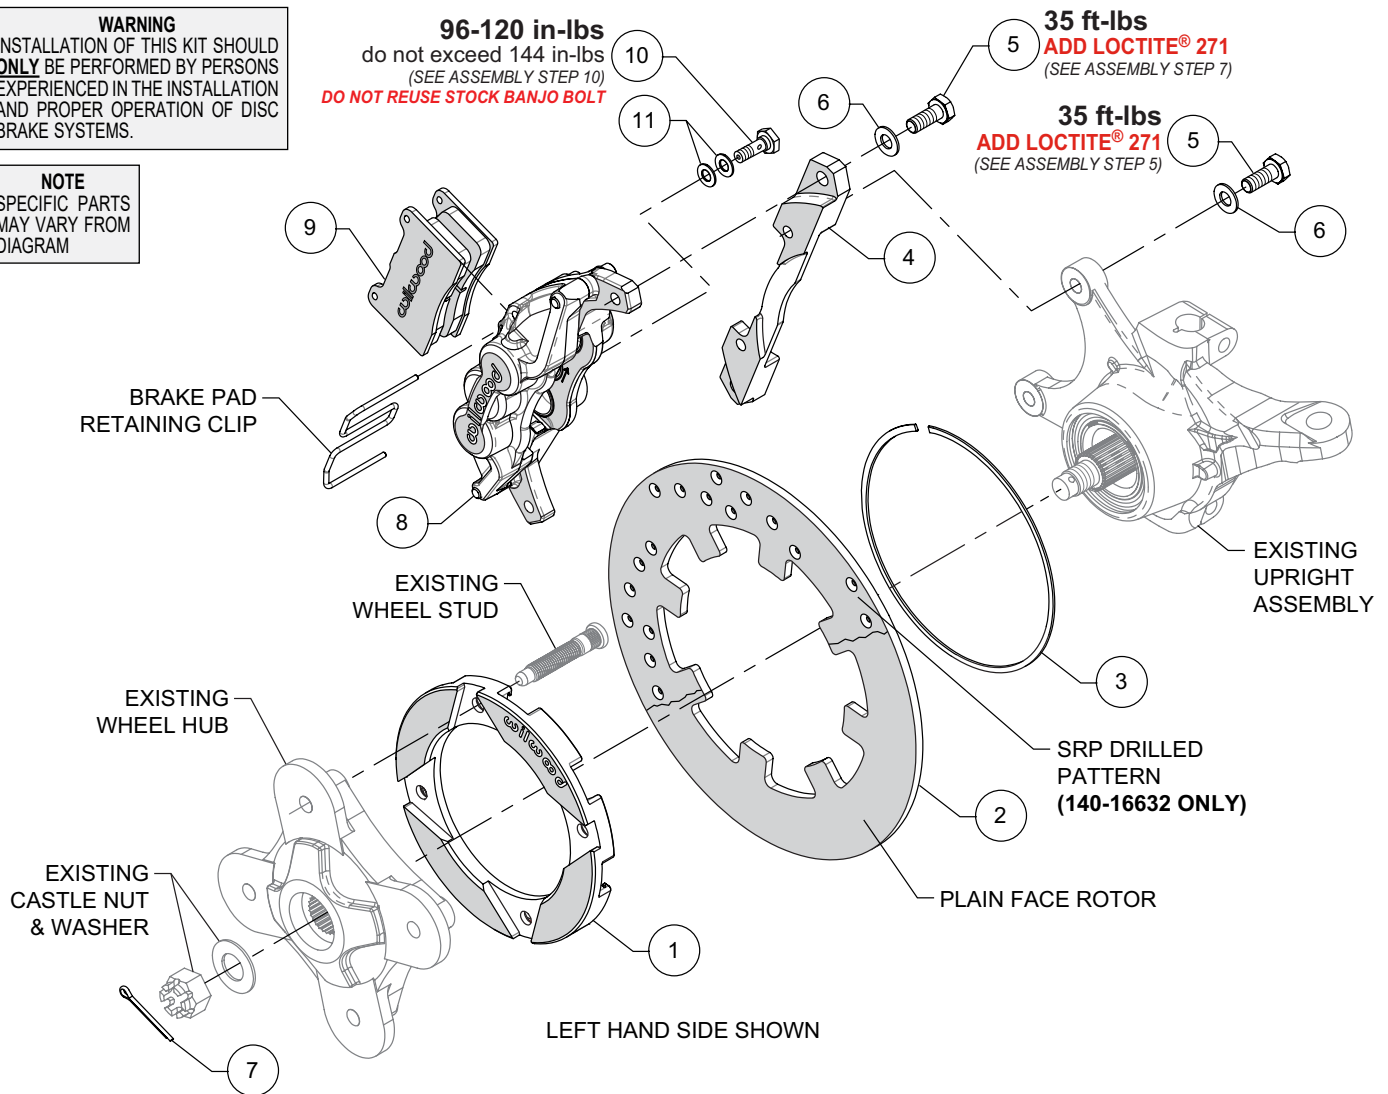

Figure 1. Typical Installation Configuration
NOTE: Numbers in parenthesis refer to the parts list and Figure 1 on the preceding pages.
STEP 5 Orient the caliper mounting bracket (4), as shown in Figure 1 and Photos 5 and 6. Install using bolts (5) and washers (6). Apply red *Loctite*® 271 to the bolt threads and torque to value shown in Figure 1.
STEP 6 Grease the splines and outer snout of the existing wheel hub with high temperature grease and slide the wheel hub/rotor assembly onto the axle, Photo 7. Attach using the existing OEM washer and castle nut. Tighten to OEM specifications and secure using cotter pin (7), Photo 8.
STEP 7 Secure the caliper (8) to mounting bracket (4) using bolts (5) and washers (6), Photos 9 and 10. Apply red *Loctite*® 271 to the threads, and torque to value shown in Figure 1.
STEP 8 Remove the pad retainer clip from the caliper (8). Insert the brake pads (9) into the caliper with the friction material facing the rotor, as shown in Photo 11. Reinstall the pad retainer clip, Photo 12.
STEP 10 Attach brake line to caliper. Orient OEM brake line as shown in Photo 13 and connect to caliper using banjo bolt (10) and crush washers (11). Do not use lubricant or thread sealant on banjo bolt (10). Torque to minimum value shown in Figure 1. Check for leakage, increasing torque only to stop leakage without